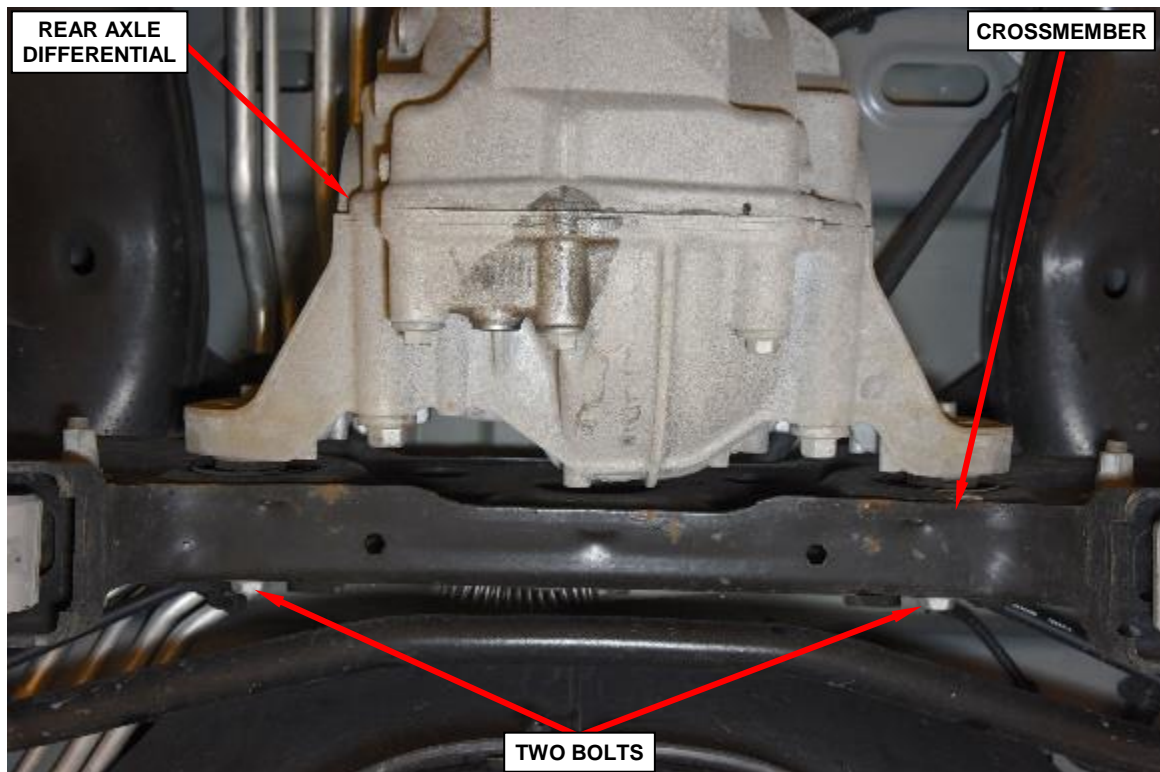

Figure 18 – Rear Axle Differential-To-Crossmember Bolts
13. Remove and discard the two bolts securing the rear axle differential to the crossmember (Figure 18).
22. Install the **new** bolts securing the rear axle differential to the crossmember. Tighten the bolts to 135 N·m (100 ft. lbs.) (Figure 18).